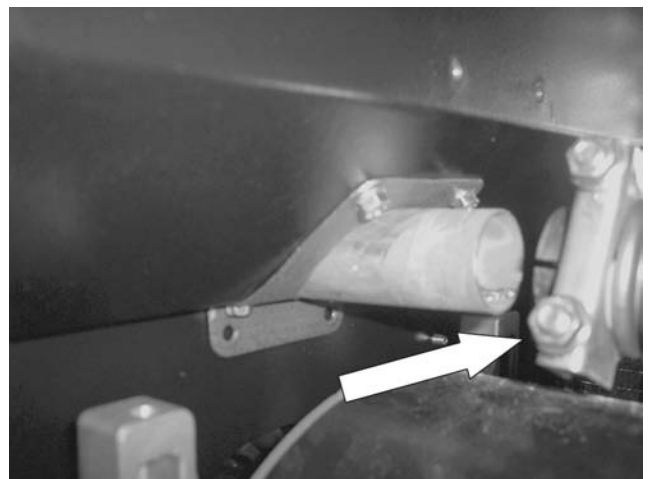

Figure 26.
4. Remove Exhaust Flex Pipe: Using a 1/2" socket remove the front and rear muffler clamp. Slide exhaust flex toward engine completely exposing the muffler flange. See Figure 26.